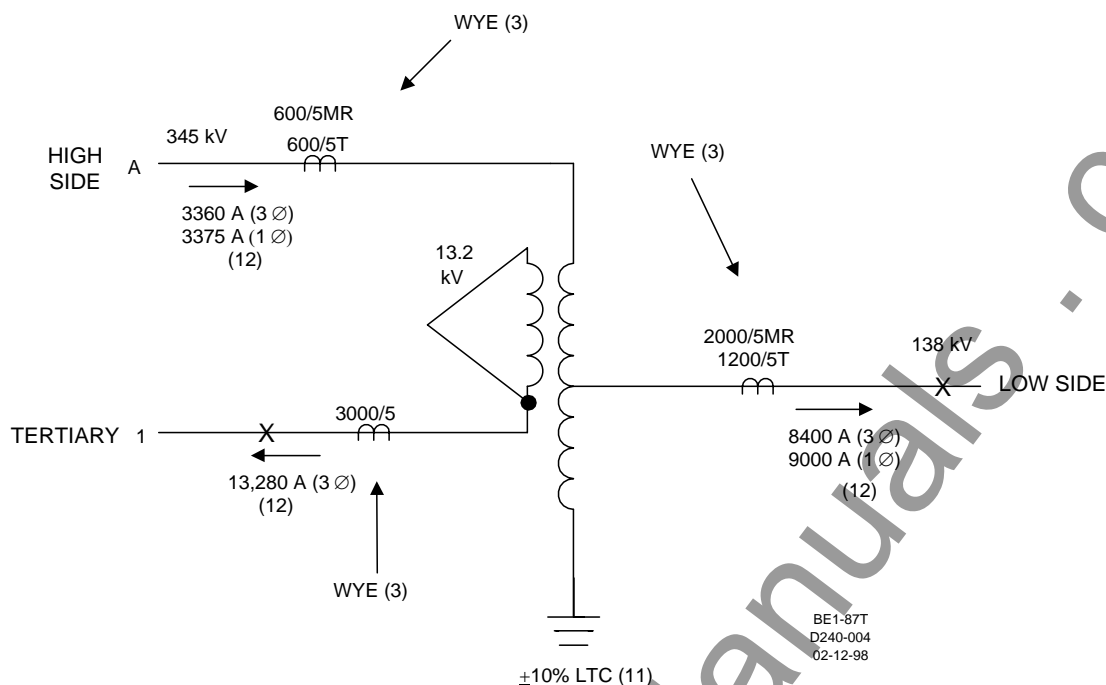

Figure 4-33. Application Example: Autotransformer With Tertiary Winding
Refer to Figure 4-33 for a one-line drawing of this example. Refer to Figure 4-32 for the three-line representation of this transformer.
Because of the grounded winding in this example, as shown in Figure 4-33 and 4-32, the high-side and low-side zero-sequence currents must be canceled. $\Delta 2$ position is selected to align the High side and Low side secondary current phasors with the tertiary phasors which lead by 30° in this example:
Step 12. Determine the maximum CT secondary fault current for external faults (I_{F3} for three-phase, and I_{FG} for line-to-ground). Refer again to Figure 4-33 for this example. The maximum fault current is recorded for each set of terminals for all combinations of external faults.
Neglecting R_R , use R_L from Figure 4-33:
Neglecting R_R , use R_W and R_L from Figure 4-33: